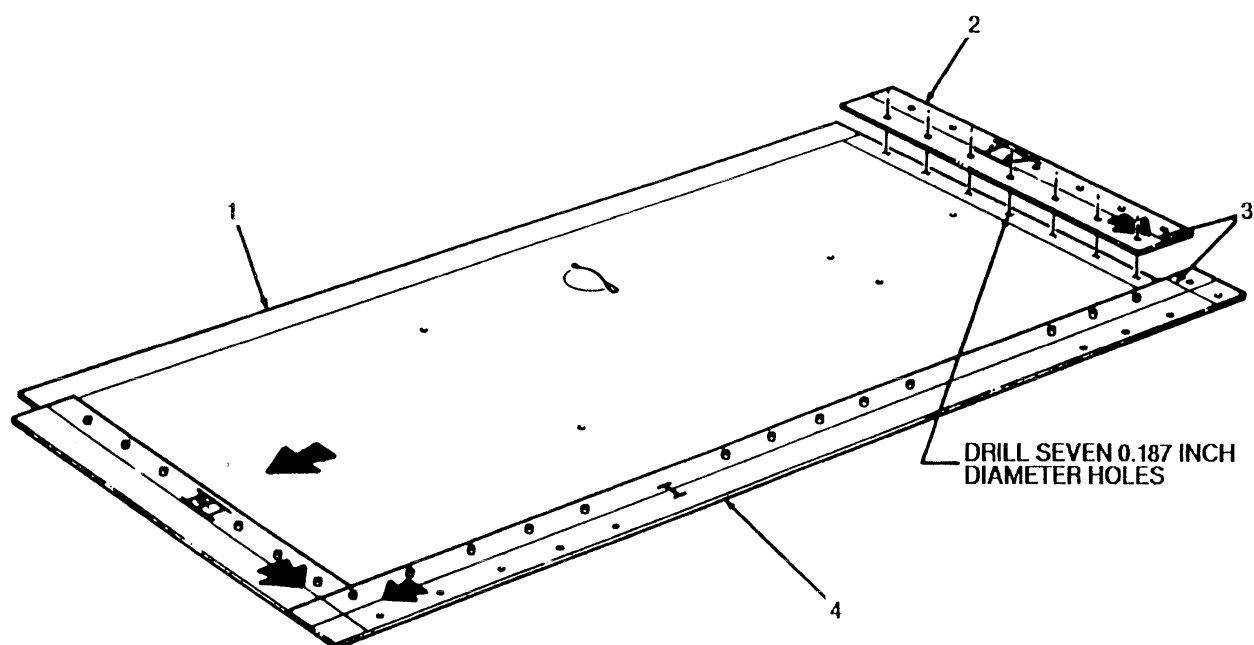
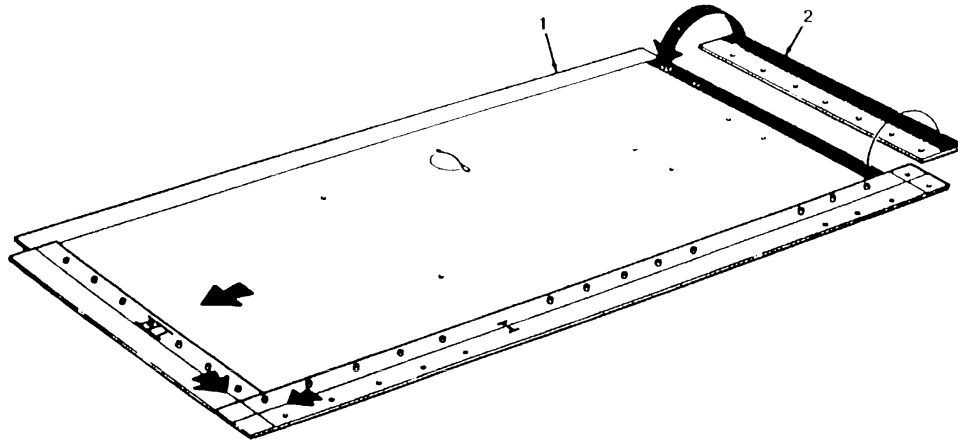

FIGURE 3-45
FIGURE 3-46
1. Place insert panel (1) on a suitable work surface with the arrow facing up and toward left hand. (see figure 3-45)
2. Position metal strip "IV" (2), with arrow facing up and toward metal strip "I" (4), onto insert panel (1). Align reference lines (3).
3. Using metal strip "IV" (2) as a template, locate, mark, and drill seven 0.187-inch diameter holes in insert panel (1). Remove metal strip "IV" (2).
4. Apply approximately 0.125-inch thickness of P/N 89616 Silaprene adhesive sealant to shaded mating surfaces on insert panel (1) and metal strip "IV" (2). (see figure 3-46)